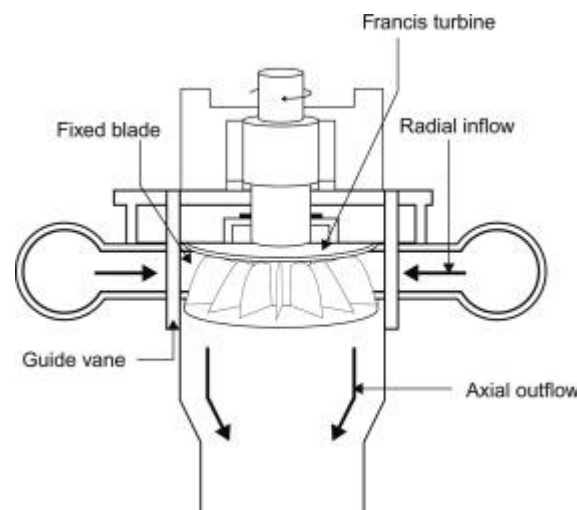

Fig 9: Francis's turbine apparatus.
- 10.1 Determine the energy to convert the kinetic power of water into mechanical power under varying head conditions i.e., partial, half, three-fourth and full operating, providing reliable and adaptable electricity generation in fig.9
- 10.2 Calculate the overall efficiency of Francis turbine. The testing apparatus are shown in fig.9